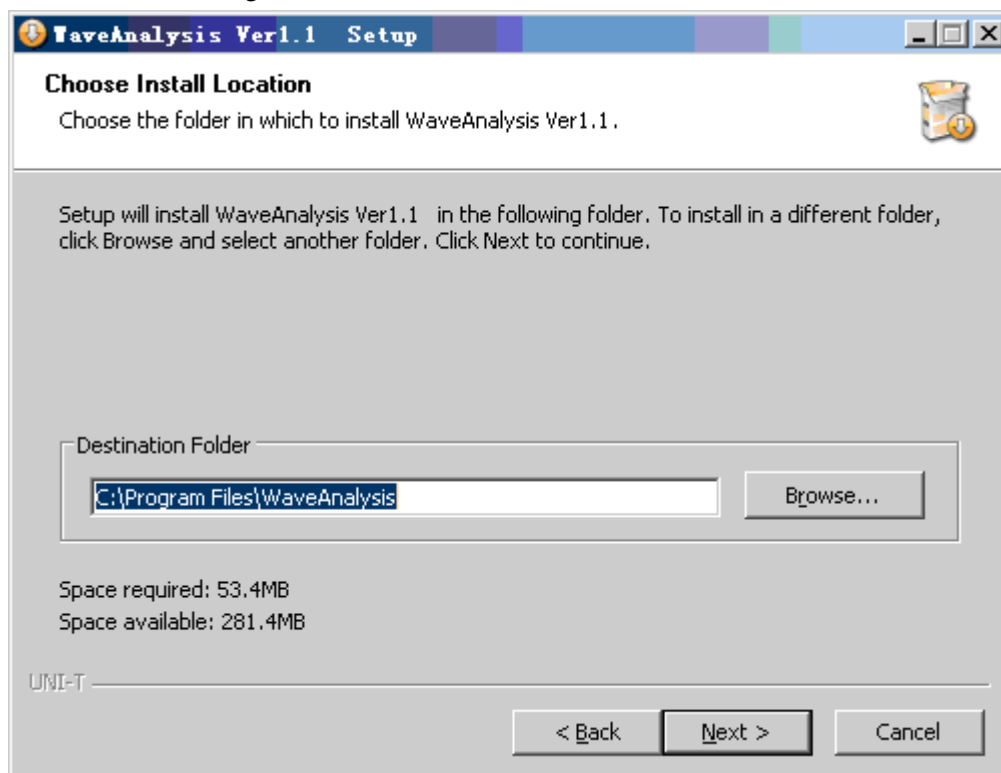

Fig. 1-4
Step three: Read the prompt in Fig. 1-3 then click the **NEXT (N)** button to enter the next step, as shown in Fig. 1-4.
Step four : In Fig. 1-4, click **BROWSE (B)** to designate the installation path for the waveform